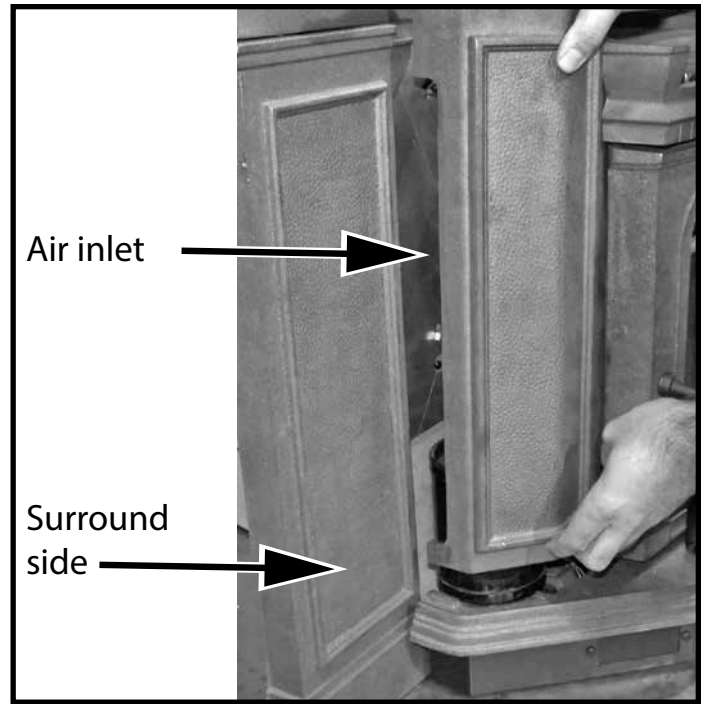

Figure 16: Installing fan shield.
7. Install fan shield as shown in Figure 16. Be sure to place the air inlet opening to the back against the surround side.